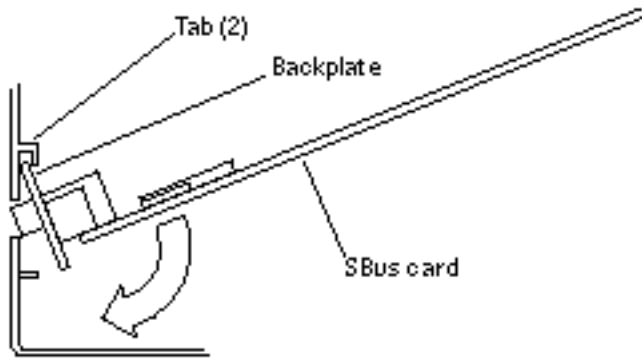

Figure 2-15 Replacing the SBus Card
5. Slide the card at an angle into the system unit by hooking the card backplate under the two tabs on the back panel (Figure 2-15).